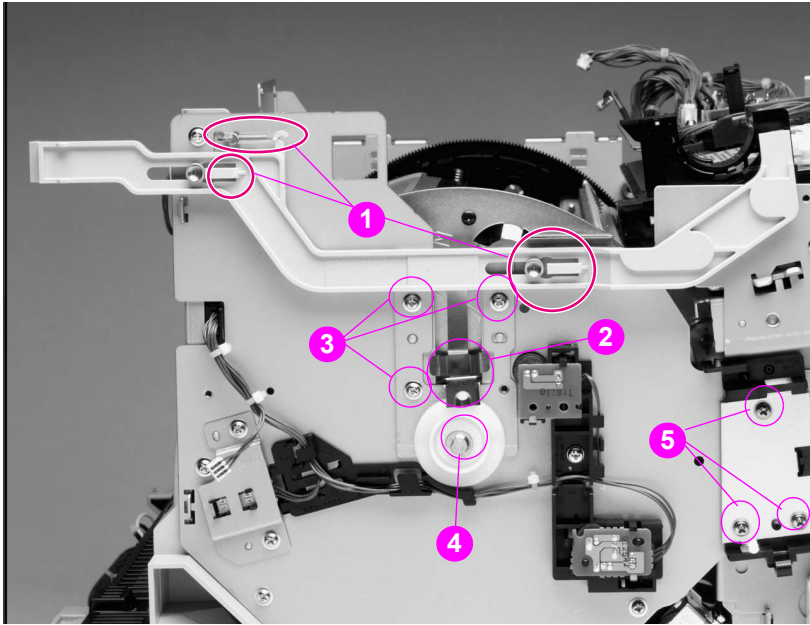

Figure 6-66 Cartridge carousel replacement - face-down delivery rod (4 of 6)
21 Remove the interlock delivery rod (see Figure 6-66, callout 1).
- 23 Remove the carousel grounding plate (see Figure 6-66, callout 2) and the carousel position plate from the carousel mounting plate (see Figure 6-66, callout 3) on the printer’s right side.
- 25 Using a flat-bladed screwdriver, remove the clip securing the grounding cam and lift off the grounding cam (see Figure 6-66, callout 4).
- 26 Remove the drum bushing assembly (see Figure 6-66, callout 5).